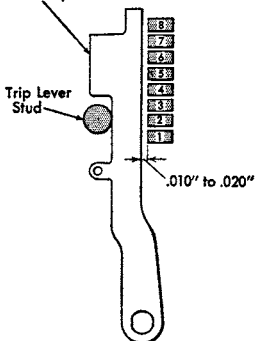

Figure 3. Pawl Tail to Interposer Clearance
5. PAWL TAIL TO INTERPOSER CLEARANCE. (Figure 3). Adjust the trip lever mounting stud for